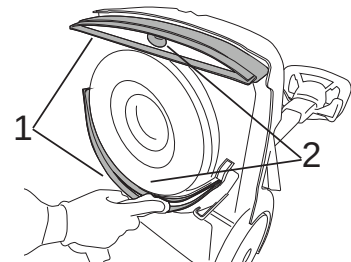

Fig.37
- Clean the blades of both squeegees with a moist cloth (fig. 37, ref. 1).
- Clean the suction inlet port of both squeegees (fig. 37, ref. 2).